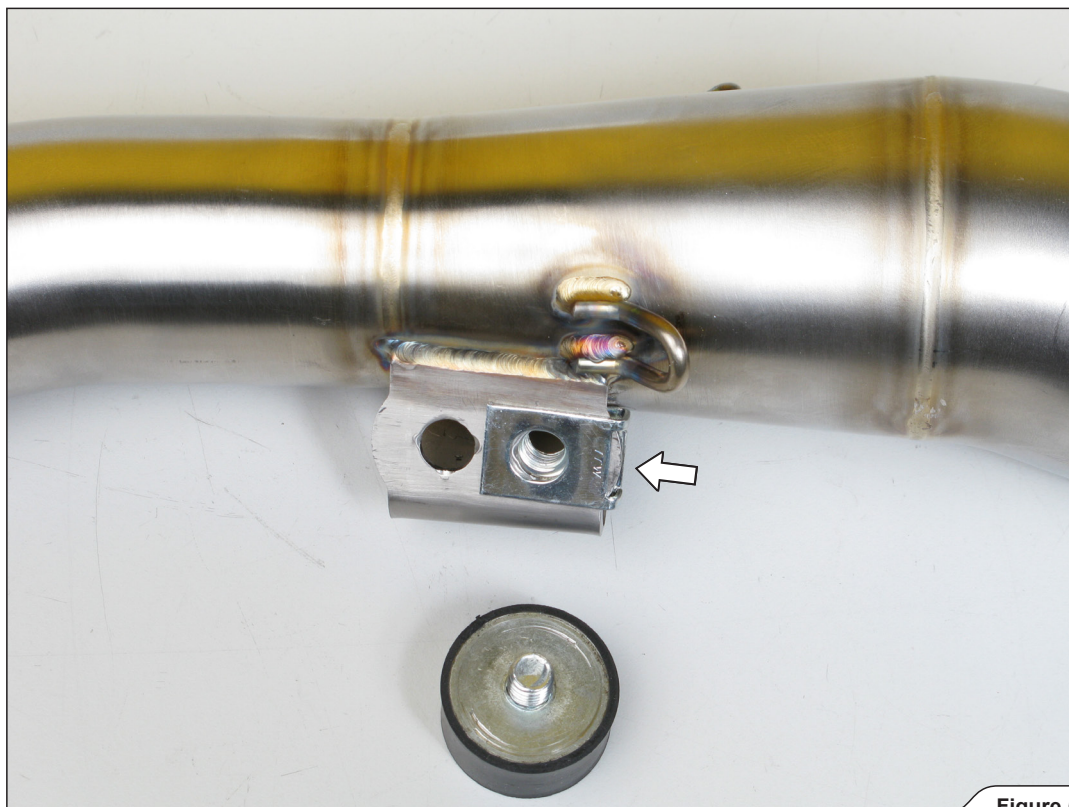

Figure 5
2. **For till-2012 model year only:** install the press-on nut onto the left link pipe's bracket exactly as shown and tighten the rubber stopper onto the bracket (**Figure 5, 6**).